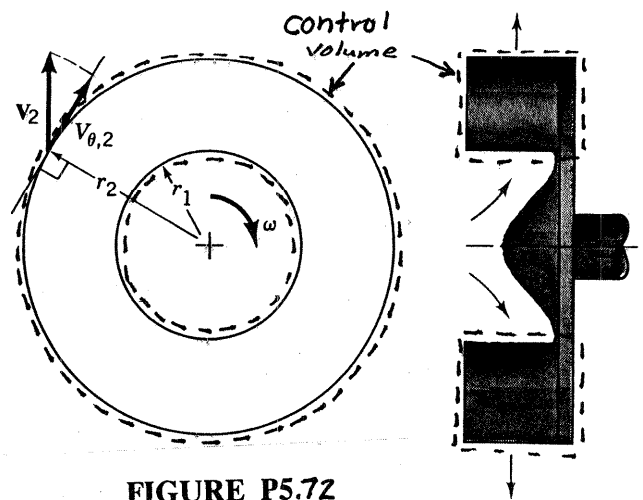

FIGURE P5.72
5.72 An incompressible fluid flows outward through a blower as indicated in Fig. P5.72. The shaft torque involved, T_{shaft} , is estimated with the following relationship: